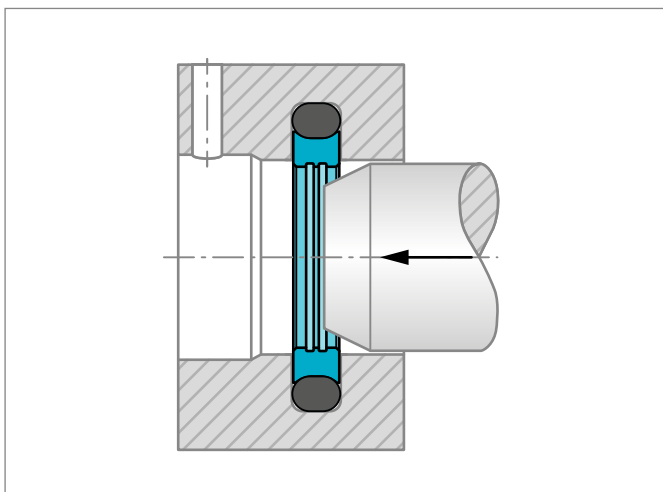

Figure 165: Calibration of installed Turcon® Roto Glyd Ring®
- 5) Calibrate the seal (see Figure 165).